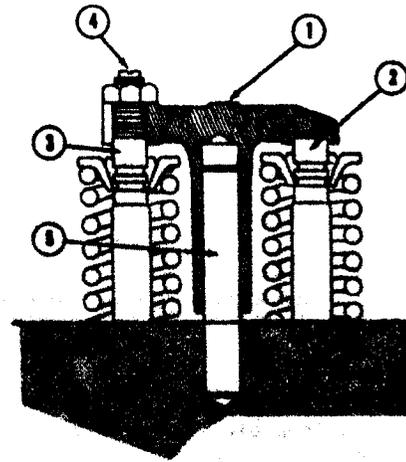

Fig. 14-100, (N21461). Adjusting valve crossheads
1. Loosen valve crosshead adjusting screw locknut and back off adjusting screw, Fig. 14-100, one turn.
2. Use light finger pressure at rocker lever contact surface (1) to hold in contact with valve stem (2). Turn down adjusting screw until it touches valve stem (3).